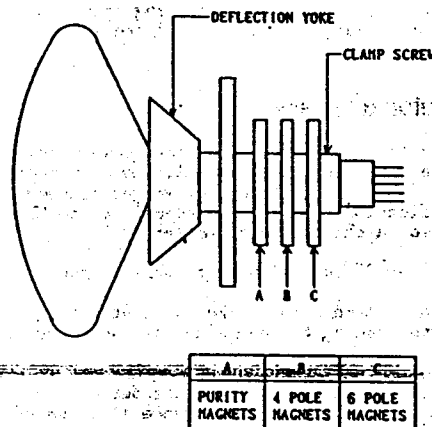

Figure 1. Picture Tube Neck Component Location
1. Check for correct location of all neck components. (Refer to Figure 1)